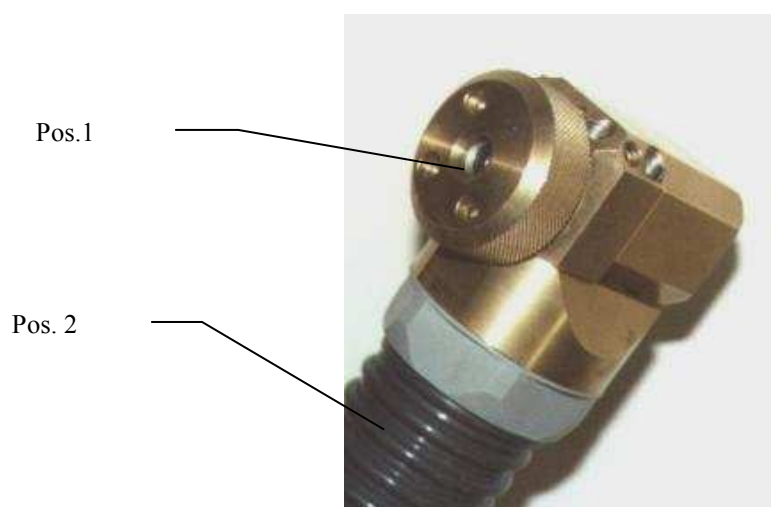

Figure 2.11b Vacuum and charging filler (ISSO 1/4" SAE type)
The ISSO filler (fig. 2.11b and 2.11c), instead, has a nut for the connection to the cooler circuit on which there will be the evacuation and the charge.
- 1/4" SAE with valve (fig. 2.11b)